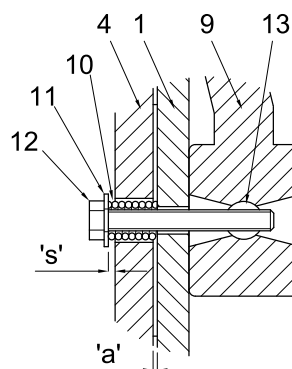

Figure 51 – Hoist Brake Hand Release
- Insert the compression springs (10) into the holes of the armature plate (1).
- Fit the washers (11) onto the hand release fixings (12) and assemble through the compression springs (10) and the stator (5).
- Fit the barrel nuts (13) into the holes provided in the hand release (9).
- Position the hand release (9) over the stator and tighten the hexagon screws (12) into the barrel nuts (13) until the armature plate moves towards the stator.
- Adjust the gap between the armature plate and the stator using the hexagon hand release screws (12) to achieve a dimension ('s' + 'a') (see Figure 51). Example 1.8mm (1.5+0.3) for brake size 3. Check the dimension at three positions around the circumference.
- Fit the complete brake assembly onto the hoist and tighten the assembly screws (7) to the value shown in the table (5.10.2).